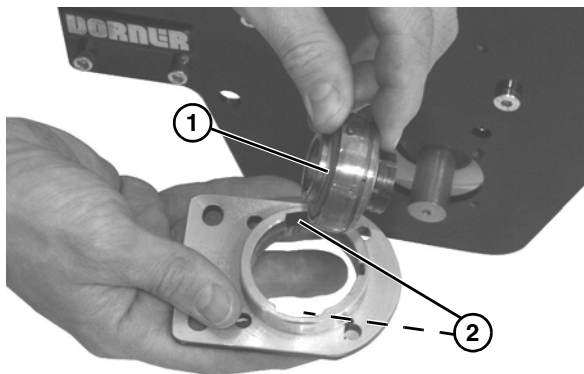

Figure 54
1. Turn bearing (**Figure 54, item 1**) to align with slots (**Figure 54, item 2**) in bearing housing. Then remove bearing.